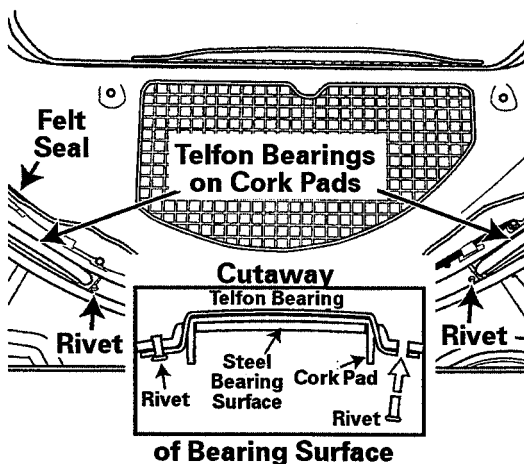

Figure 2-34
3. Drill out the old rivets and rivet new bearings in place. In positioning the bearing and cork pad, the face of the bearing should ride against the tumbler, *see Figure 2-34.*